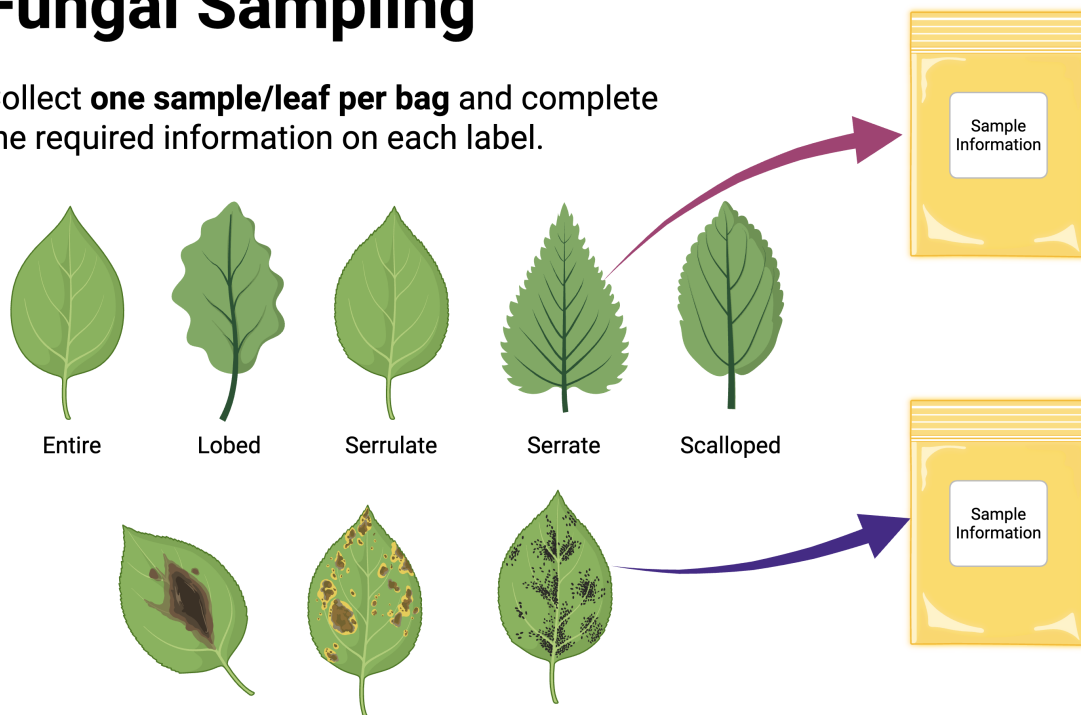

Figure 2: Fungal Sampling. Collect one sample/leaf per bag and complete the required information on each label. Figure created with BioRender.com.
3. As indicated in Figure 2, place the label in a paper bag. Record your information on the label including the unique ID number, date, location, and any other relevant information. This will be important for tracking your samples and linking them to your iNaturalist observation.